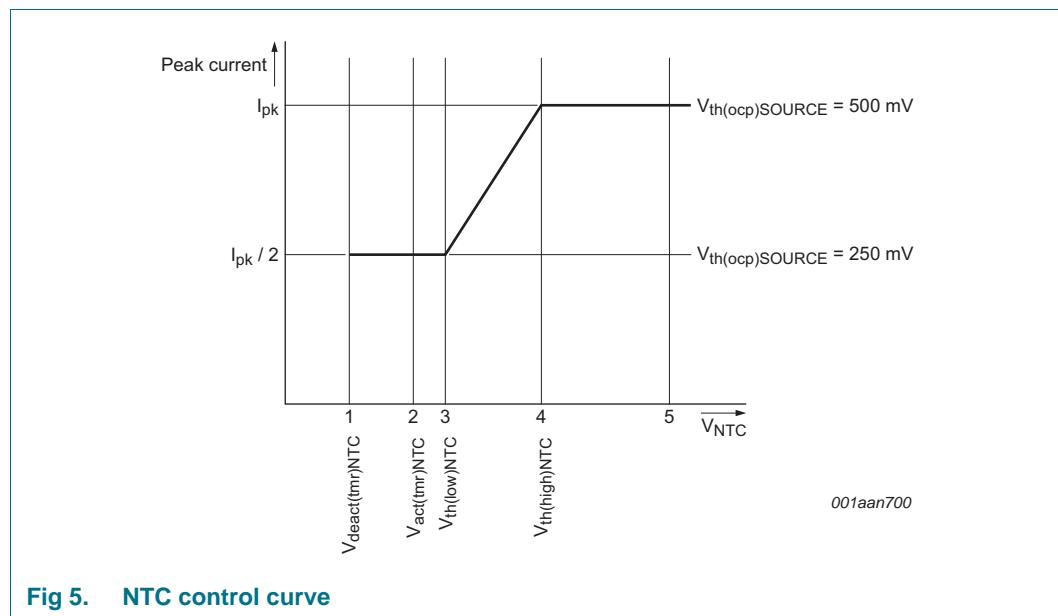

Fig 5. NTC control curve
The NTC pin can be used as a control method for LED thermal protection. Alternatively, the pin can be used as an input to disable/enable light output using a digital signal (PWM dimming). The pin has an internal current source that generates the current of $I_{offset(NTC)}$. An NTC resistor to monitor the LED temperature can be directly connected to the NTC pin. Depending on the resistance value and the corresponding voltage on the NTC pin, the converter reacts as shown in Figure 5.
When the voltage on the NTC pin is higher than $V_{th(high)NTC}$ see Figure 5 (4), the converter delivers nominal output current. When the voltage is lower than this level, the peak current is gradually reduced until $V_{th(low)NTC}$ is reached, see Figure 5 (3). The peak current is now half the peak current of nominal operation. When $V_{act(tmr)NTC}$ is passed, see Figure 5 (2) a timer starts to run to distinguish between the following situations:
- If the low-level $V_{deact(tmr)NTC}$ is not reached within time $t_{to(deact)NTC}$, Figure 5 (1) LED overtemperature is detected. The IC stops switching and attempts to restart from the HV pin voltage. Restart takes place when the voltage on NTC pin is higher than $V_{th(high)NTC}$, see Figure 5 (4). It is assumed that the reduction in peak current did not result in a lower NTC temperature and LED OTP is activated.
- If the low-level $V_{deact(tmr)NTC}$ is reached within the time $t_{to(deact)NTC}$, Figure 5 (1) it is assumed that the pin is pulled down externally. The restart function is not triggered. Instead, the output current is reduced to zero. PWM dimming can be implemented this way. The output current rises again when the voltage is higher than $V_{deact(tmr)NTC}$.
The NTC pin can be used to make a soft start function. During switch-on, the level on the NTC pin is low. By connecting a capacitor (in parallel with the NTC resistor), a time constant can be defined. The time constant causes the level on the NTC pin to increase slowly. When passing level $V_{th(\text{low})\text{NTC}}$ Figure 5 (3), the convertor starts with half of the maximum current. The output current slowly increases to maximum when $V_{th(\text{high})\text{NTC}}$ Figure 5 (4) is reached.